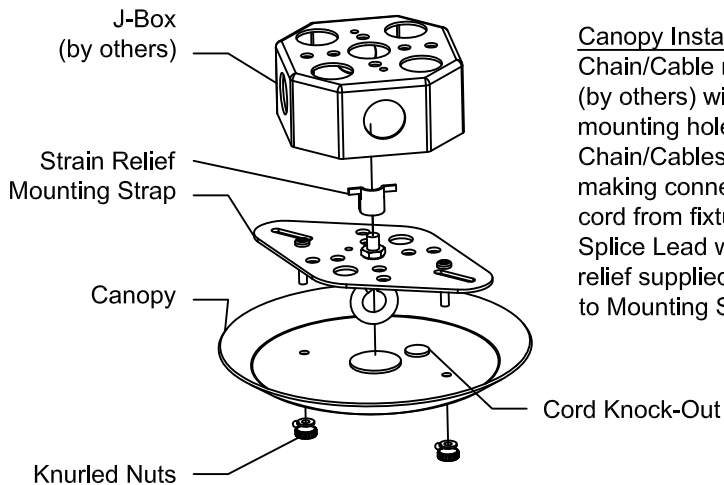

FIGURE 7
Canopy Installation: Figure 7, shows how to install the canopy option for the Chain/Cable mount and Hook options. Attach the mounting strap to the J-Box (by others) with screws (by others). The Mounting Strap is supplied with auxiliary mounting holes that will align with holes in field installed J-Box (by others). Slip Chain/Cables or Hook attached to fixture through center hole in canopy. If making connections in the J-Box, remove Cord Knock-out from canopy and slide cord from fixture through canopy. Hang fixture on eye bolt attached to J-Box. Splice Lead wires from J-Box to Fixture cord (if applicable), then crimp strain relief supplied onto cord about 3" from end of cord inside J-Box. Secure Canopy to Mounting Strap with (2) supplied Knurled Nuts.